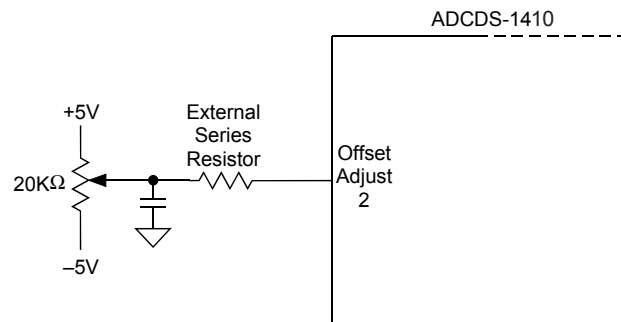
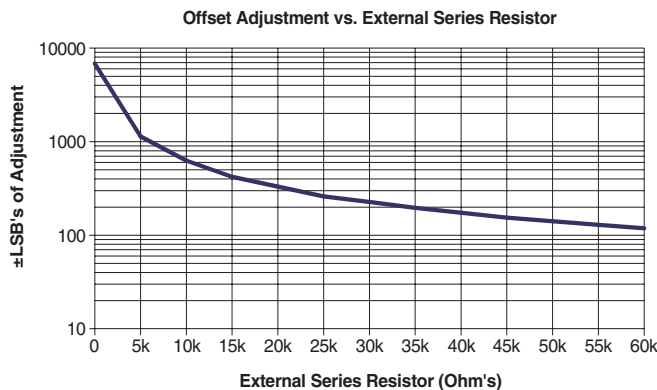

Figure 3. Offset Adjustment Circuit
Figure 6. Offset Adjustment vs. External Series Resistor
- If using the suggested offset and gain adjust circuits (Figure 3 & 5), place them as close to the ADCDS-1410's package as possible.
Manual offset adjustment for the ADCDS-1410 can be accomplished using the adjustment circuit shown in Figure 3. A software controlled D/A converter can be substituted for the 20KΩ potentiometer. The offset adjustment feature allows the user to adjust the Offset/Dark Current level of the ADCDS-1410 until the output bits are 00 0000 0000 0000 and the LSB flickers between 0 and 1. Offset adjust should be performed before gain adjust to avoid interaction. The ADCDS-1410's offset adjustment is dependent on the value of the external series resistor used in the offset adjust circuit (Figure 3). The Offset Adjustment graph (Figure 6) illustrates the typical relationship between the external series resistor value and its offset adjustment capability utilizing ±5V supplies.